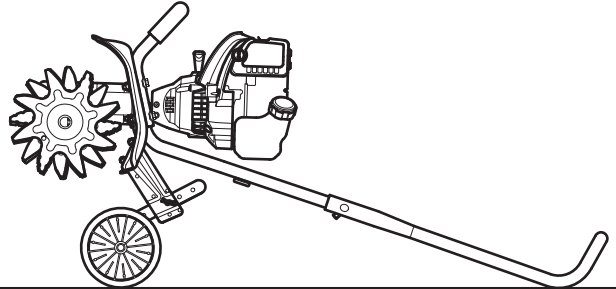

Fig. 5
1. **Set the unit on a flat, level surface.** Tip the unit back so that the handlebar touches the ground and the engine is in a horizontal position (Fig. 5).